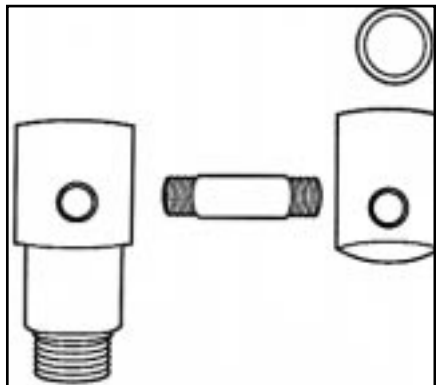

Figure 51
11. clamp the pump/oiler connector in the bench vise, and unscrew it from the oil chamber.(Fig.51)